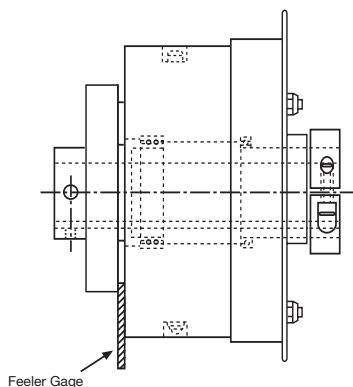

Figure 12
- a. Measure the gap around the periphery between the coupling flange and clutch housing without rotating the shafts. (See Figure 12)
- a. Measure the gap around the periphery between the coupling flange and the clutch housing without rotating the shafts. (See to Figure 12)